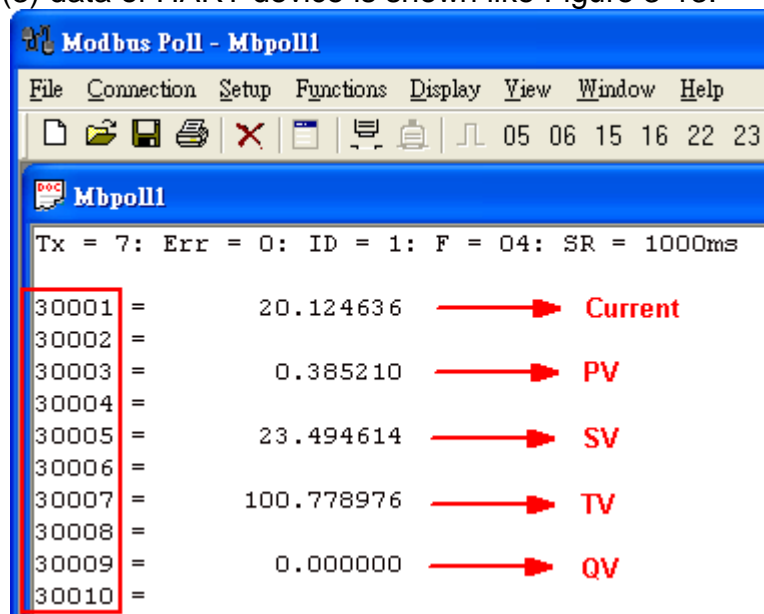

Figure 3-13 The CMD(3) data of HART device
<5> The CMD(3) data of HART device is shown like Figure 3-13.